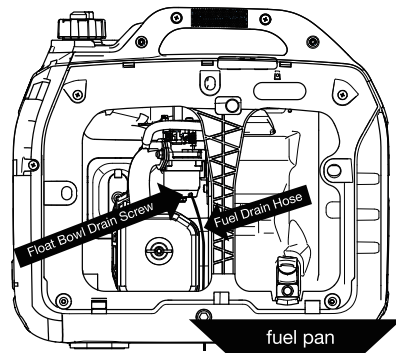

Figure 17: Fuel drain hose
- Locate the clear plastic hose from the float that is exiting out the bottom of the inverter, and place a suitable container under it to catch the drained fuel (see Figure 17).